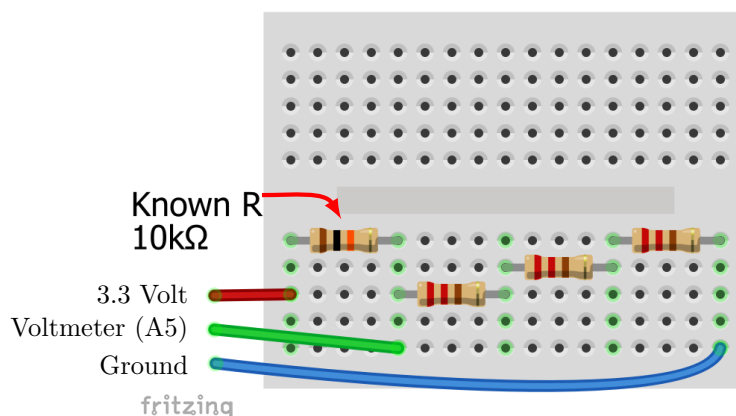

Figure 3: Three resistors in series circuit diagram
1. Construct circuits that contain at least two or three resistors in series (Figure 3) and measure the resistance with your ohmmeter. If necessary, replace your R_1 with a resistor suitable for the resistance you are measuring.